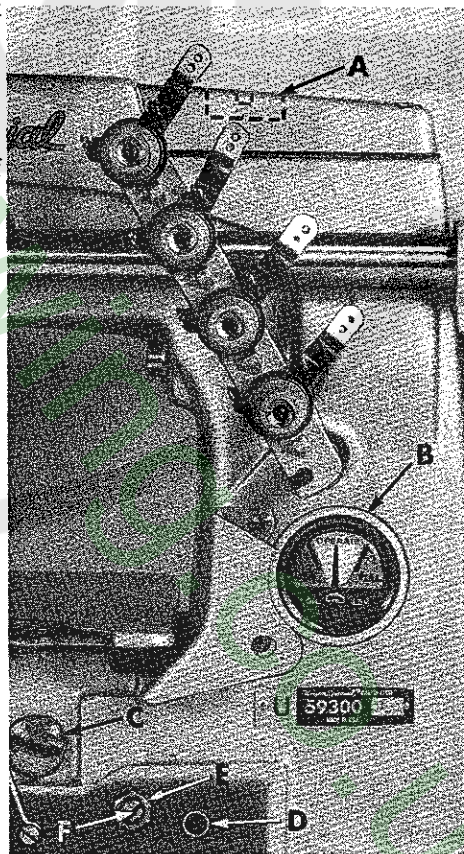

Fig. 1
CAUTION! Oil has been drained from the main reservoir before shipment, so the reservoir must be filled to the proper level at plug screw (A, Fig. 1) as indicated on oil gauge (B), before beginning to operate. The capacity of the reservoir is 12 ounces (340.2 gr.). Run machine slowly for several minutes to distribute the oil to the various parts. Full speed operation can then be expected without damage.
Use a straight mineral oil of a Saybolt viscosity of 90 to 125 seconds at 100° Fahrenheit in the main reservoir. This is equivalent to Union Special Specification No. 175. Fill main reservoir at plug screw in upper crank chamber cover (A, Fig. 1) and check oil level at gauge (B). Oil is at maximum safe operating level when needle is to the black line, located to the right of "OPERATE" zone, marked "FULL". Oil should be added when needle is to the black line, located to the left of "OPERATE" zone, marked "LOW". The recommended oil is available in 16 fluid ounce (453.6 gr.) cans No. 28604 R.
For machines in operation check the oil for dirt and lint deposits at reasonable intervals. If dirty, change the oil. An oil change is recommended every 2000 operating hours, or once a year. Oil may be drained from main reservoir by removing plug screw (C, Fig. 1) located below the cloth plate at front of the machine, or by removing the lower crank chamber cover, located at the back of machine.
A daily check before the morning start should be made, to see that the oil level is at a safe operating level, as outlined in the first paragraph. Oil which has gone through the machine is filtered and pumped back into the main reservoir, making too frequent oilings unnecessary. Excessive oil in the main reservoir may be drained by removing plug screw (C, Fig. 1) located below the cloth plate at the front of the machine. After draining oil, wipe the hole and plug screw dry, paint hole and screw with a little gasket cement, and re-assemble screw.
2. Remove the oil reservoir plug screw (C, Fig. 1) and tip machine forward to drain oil from the reservoir.
5. Fill main reservoir to a level even with the bottom contour of the knee press shaft bushing (D, Fig. 1).
6. Loosen locknut (E) on the calibrating screw (F), and turn the screw to the left or right until the gauge needle rests on the black line, located to the left of "OPERATE" zone, marked "LOW".
7. Tighten locknut (E) and replace plug screw (C) and lower crank chamber cover.